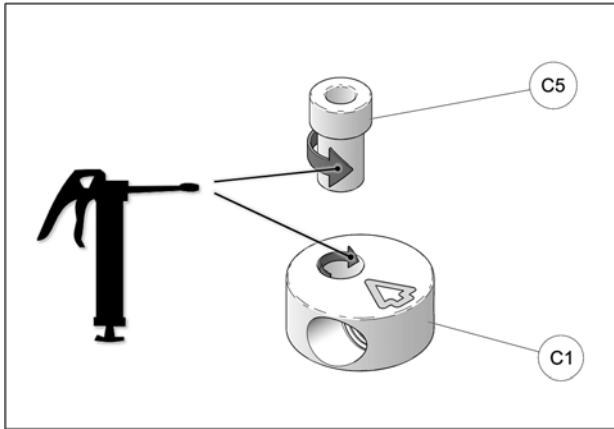

Fig. 22
11. Apply grease evenly all around step spacer bushing (**C5**) and in hole of aluminium disk (**C1**) when assembling these parts together. See Fig. 22